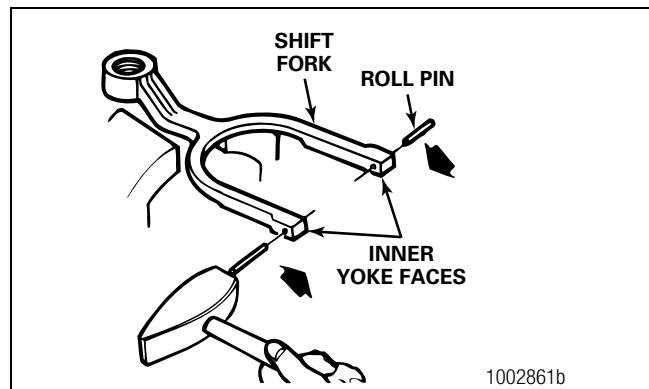

Figure 6.8
- On carrier models with shift fork roll pins, install the two roll pins into the ends of the shift fork. Tap the pins into position until they are level with the inner yoke face. Figure 6.8. Do not install the pins completely at this time.